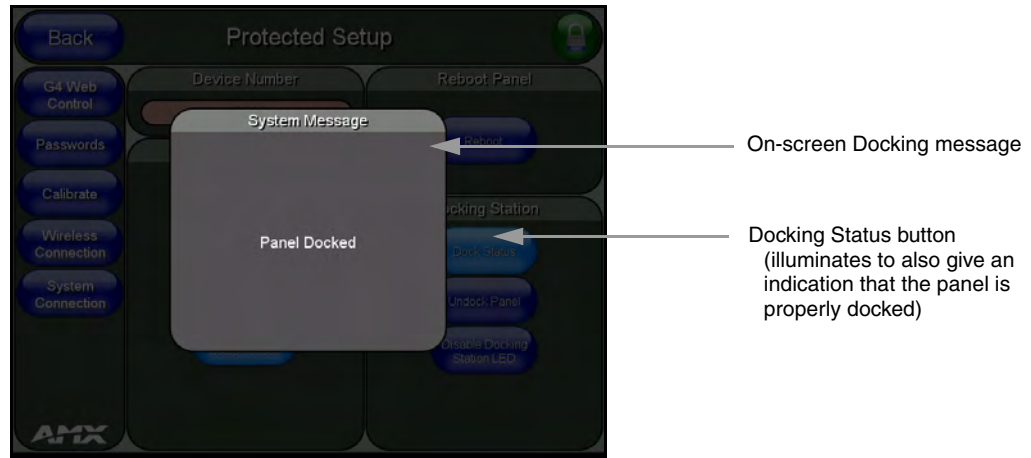

FIG. 18 System message - panel is properly docked
- When the MVP is properly docked, the following message is displayed on the panel (FIG. 18).